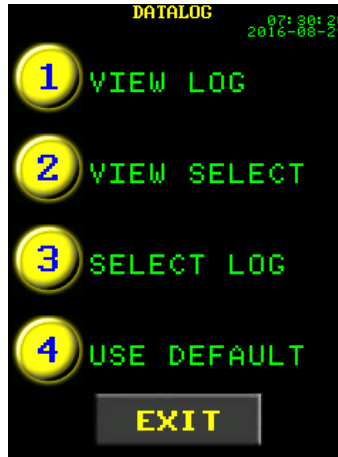

Figure 4.5-6: DataLog Menu
2. Choose "Select Log" from the DataLog Menu, shown in Figure 4.5-6.